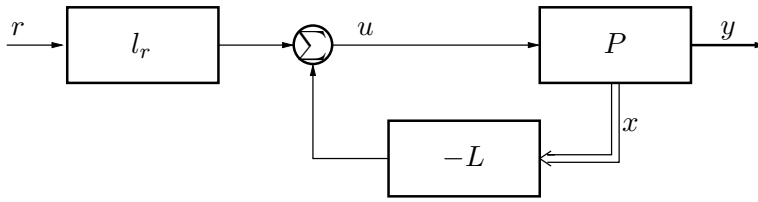

Figure 8.2 The system in Problem 8.4.
**8.4** Consider the block-diagram in Fig. 8.2. This is an illustration of the state-feedback scheme. Determine a control law  $u = l_r r - Lx$  for